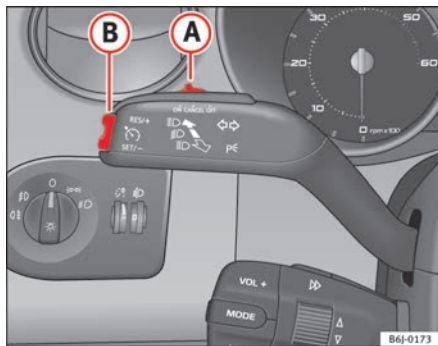

Fig. 106 Indicator and main beam headlight lever: switch and rocker switch for the cruise control
- Press the lower part **SET** of the rocker switch ⇒ fig. 106 **B** once briefly when you have reached the speed you wish to set.